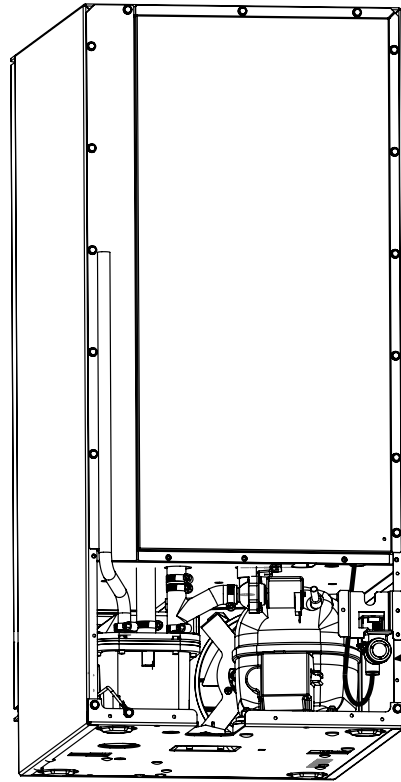

Figure 23
7. Disconnect the water valve's outlet water line to the reservoir and drain the remaining water left in the water line trap area. (See Figures 23 and 23a).